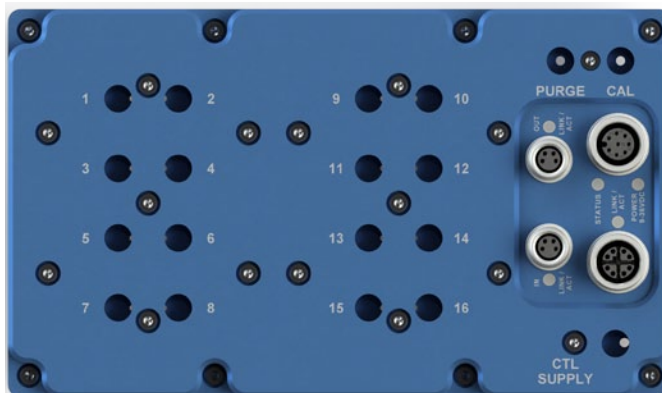

FIGURE 2.6 - DSA5000 ABSOLUTE 16APx TOP VIEW
The DSA5000 Absolute 16APx module can be used for absolute pressure measurement when equipped with absolute pressure transducers. A calibration valve is provided for each group of eight (8) sensors (no reference port). All sixteen (16) transducers are tied a single calibration port. An absolute module will provide pressure values as an absolute value. Figure 2.6 depicts the top panel of a DSA5000 Absolute 16APx pressure module.